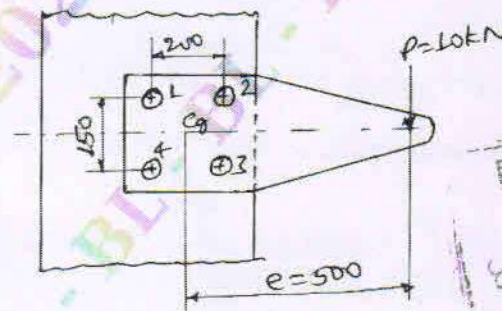

Fig. Q9 (a)
- 9 a. The structural connection shown in Fig. Q9 (a) is subjected to an eccentric load F of 10 kN with an eccentricity of 500 mm. The centre distance between bolts at 1 and 3 is 150 mm and the centre distance between bolts at 1 and 2 is 200 mm. All bolts are identical. The bolts are made of plain carbon steel having yield strength in tension of 400 MPa and the FOS = 2.5. Determine the size of the bolt.